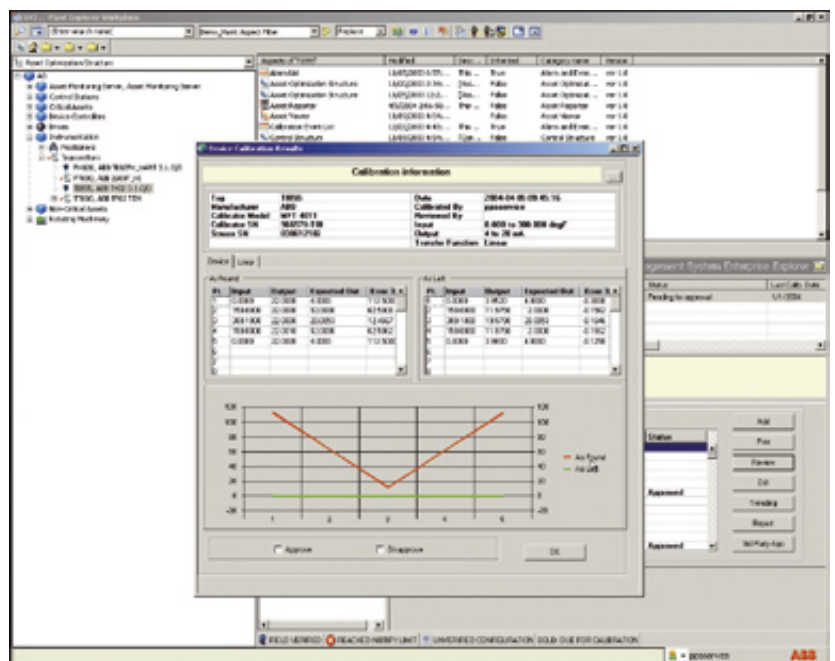

Figure 4. Detailed Review of Field Calibration Results
11. From any System 800xA workplace, the supervisor can review and approve the calibration. Selecting the calibration specific audit trail in the DMS aspect, the supervisor can review all actions that have taken place. A detailed review of results can be opened from the audit trail (Figure 4).